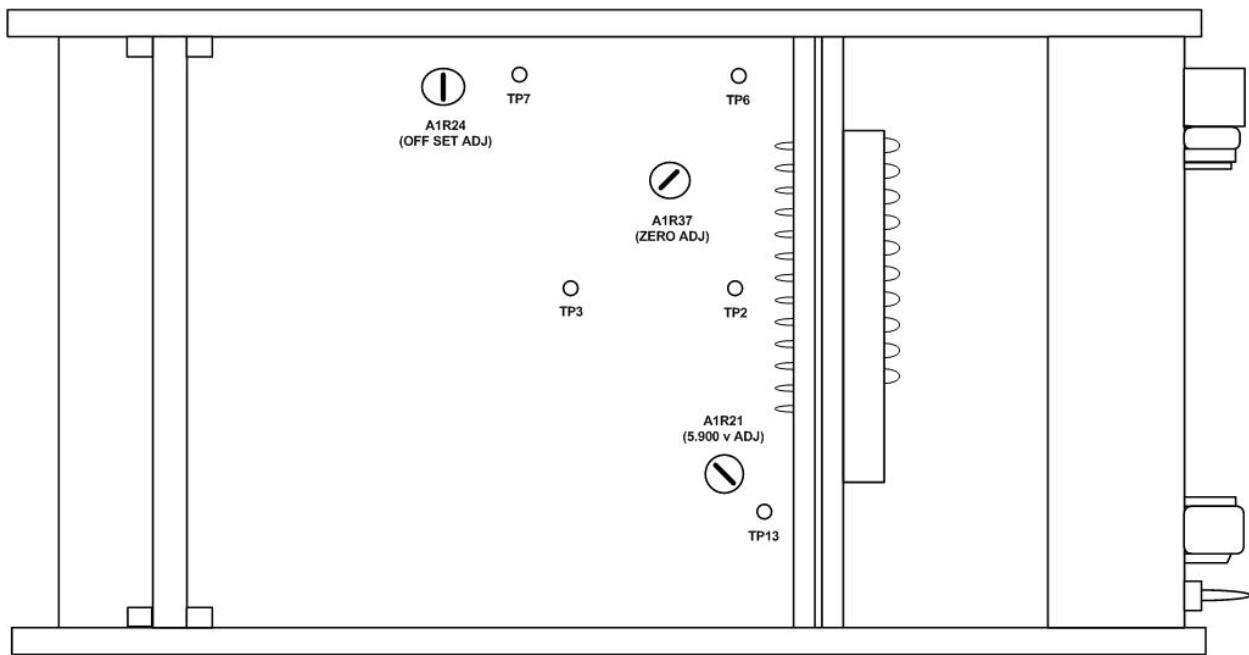

Figure 2. Calibrator A1 circuit board - component location.
- (1) Remove cover from TI for access to adjustments.
- (2) Return power meter **OPERATE/CALIBRATE** switch **A2S1** to **OPERATE** if set in 8 a (2) (d) above.
- (3) Connect the multimeter positive lead to TP13 (fig. 2) and the negative lead to TI chassis.
- (4) Turn TI **POWER (mW)** switch and power meter **RANGE** switch to **3 mW**.
- (5) Set TI **ZERO/TEST** switch to **ZERO**.
- (6) Adjust TI **ZERO** control to midrange.
- (7) Adjust A1R21 (5.900 v ADJ) (fig. 2) for a multimeter indication of 5.900 V dc (R).
- (8) Connect multimeter positive lead to TP2 (fig. 2) and the negative lead to TP3 (fig. 2).
- (9) Adjust A1R37 (ZERO ADJ) (fig. 2) for a multimeter indication of 0.0000 V dc (R).
- (10) Connect multimeter positive lead to TP7 (fig. 2) and the negative lead to TP 6 (fig. 2).
- (11) Adjust A1R24 (OFFSET ADJ) (fig. 2) for a multimeter indication of 0.0000 V dc (R).